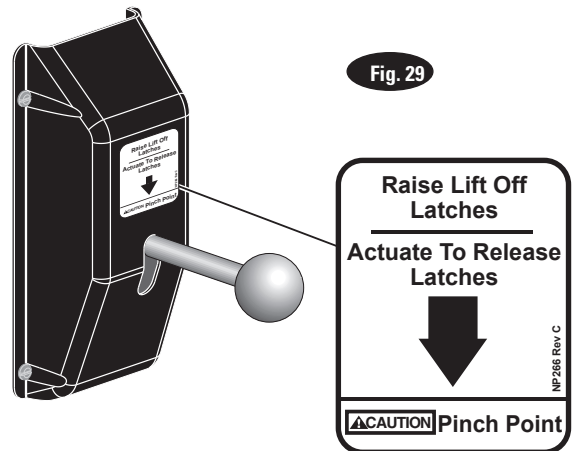

Fig. 29
25. Latch Release Decal: Install latch release decal on cover above latch release handle, Fig. 29.